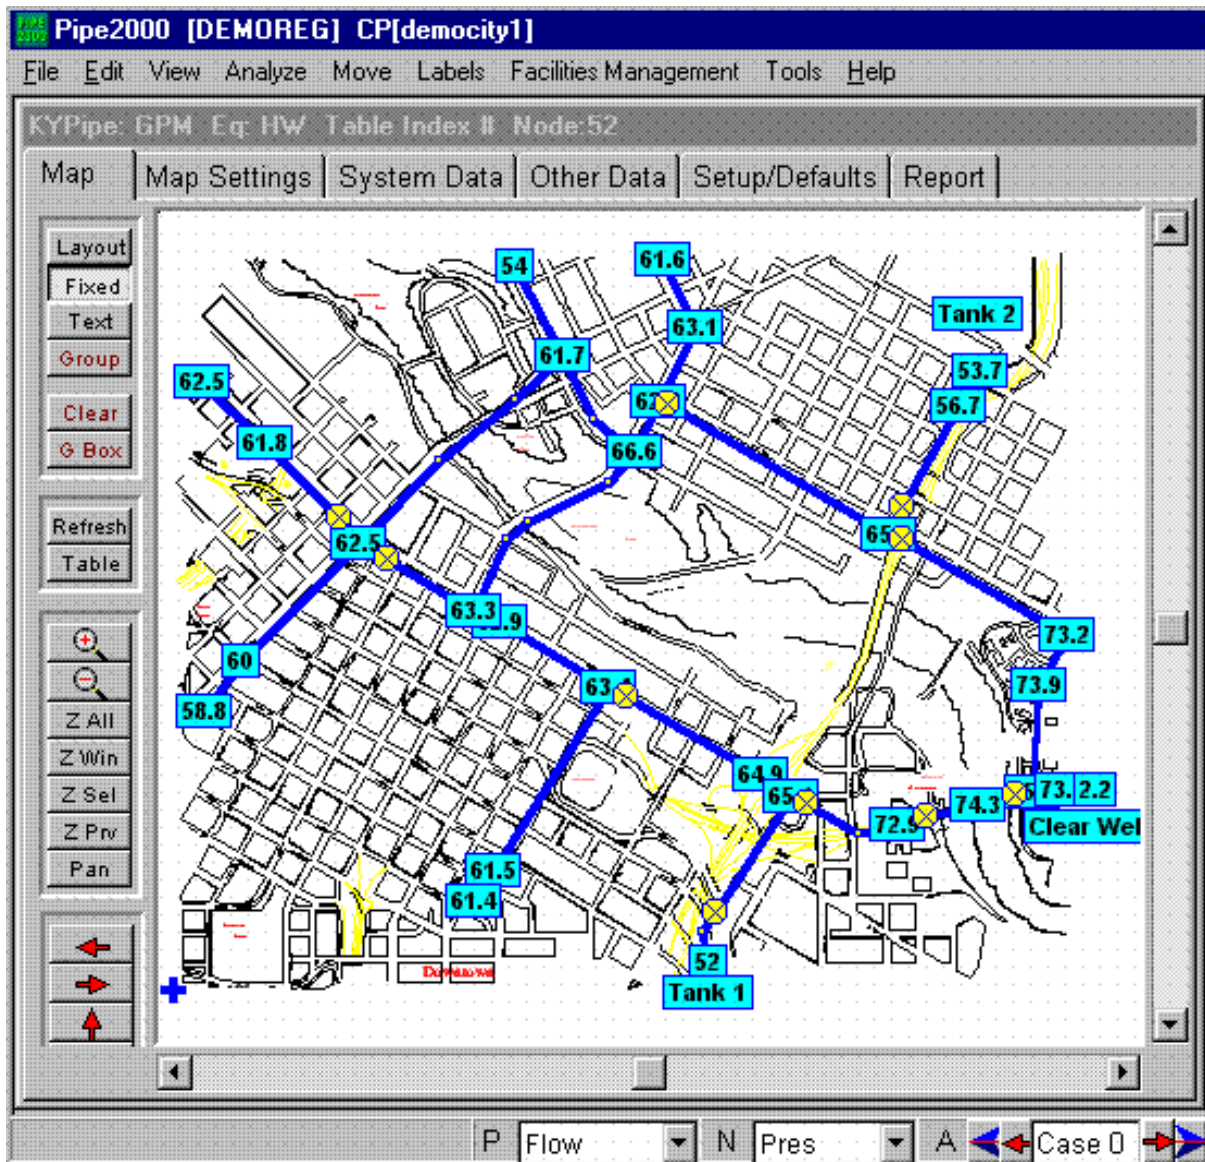

Figure C.6 Results Labels, Case 0
1) Results Labels: Click on **Labels**, **Pipe Results**, and **Pipe Result A** and repeat for **Node Results** and **Node Results A**. This will display flow rates (in g.p.m.) for each pipe and the pressure (in p.s.i.) for each node for the baseline data (Case 0). Figure C.6 shows this display You can use the **Results Selector** bar at the bottom of the screen to select different parameters for nodes (drop down list for *N* (node) box) and pipes (drop down list for *P* (pipe) box) and look at Cases 1 and 2 using the arrows in the **A** case/time selection box.